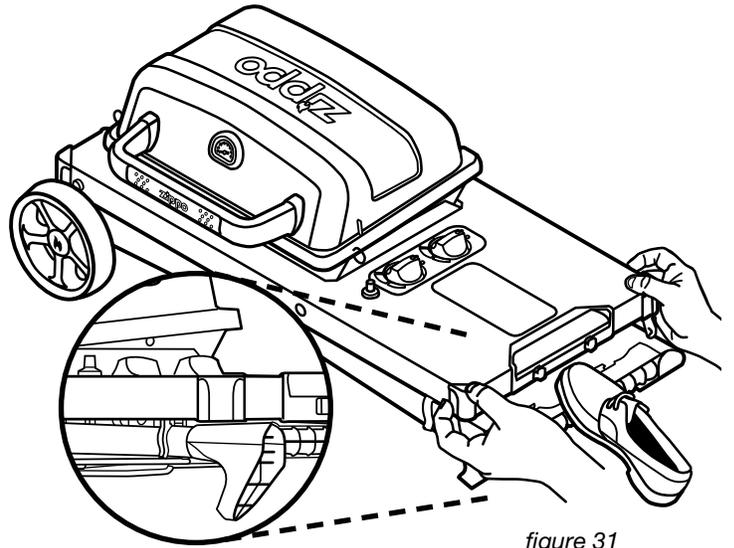

figure 31
**NOTE:** Make sure leg clips are fully engaged before transportation, as shown in figure 31.